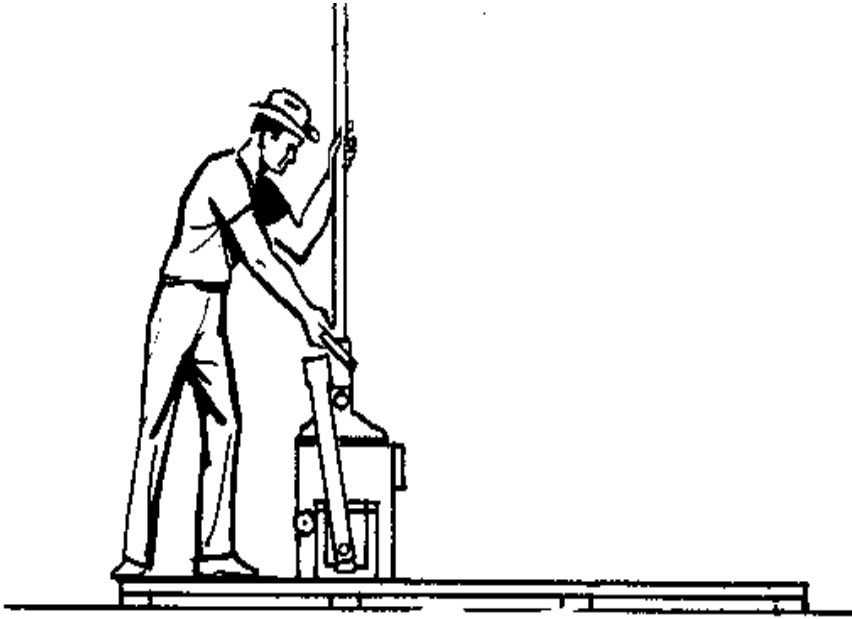

Fig. 9 - Raising the Lever.
(4) Fill the corners of the box to the top so that the corners of the finished block will be well pressed.
(5) Press a bit in the corners with your fingers.
(6) Replace the cover.
(7) Move the lever to a vertical position, letting the lower rollers fall into place (see Fig. 9).